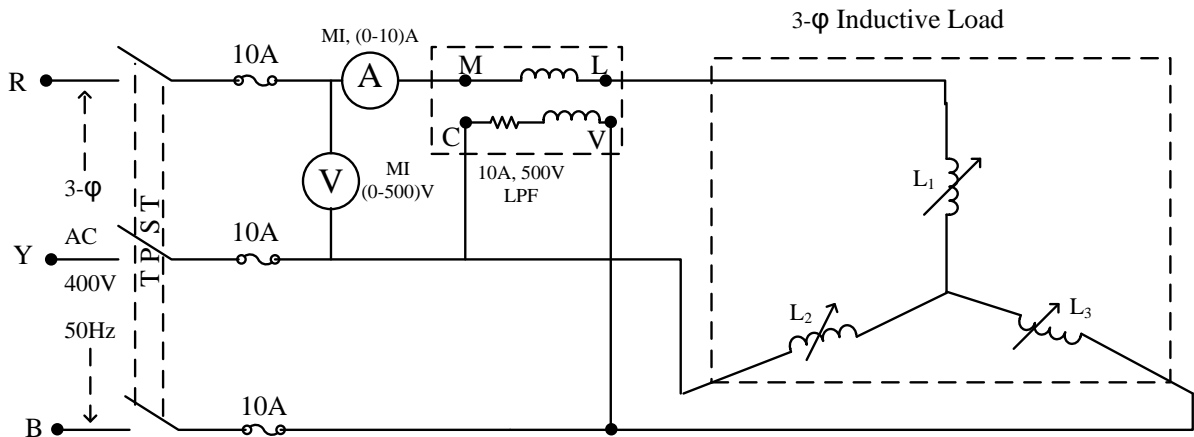

Fig.2 Measurement of Reactive Power
One wattmeter method for measurement of reactive power is for 3 phase balanced load only. The current coil of the wattmeter is connected in one of the lines. The pressure coil is connected across the two remaining lines similar to the circuit connection which is shown in Fig.2.
1. Make the connections as per the circuit diagram as shown in Fig. 2.